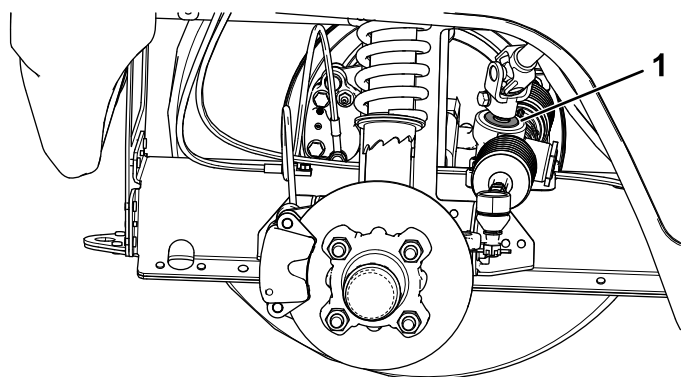

Figure 43
- **Important:** Inspect the condition and security of the pinion-shaft seal (Figure 43).